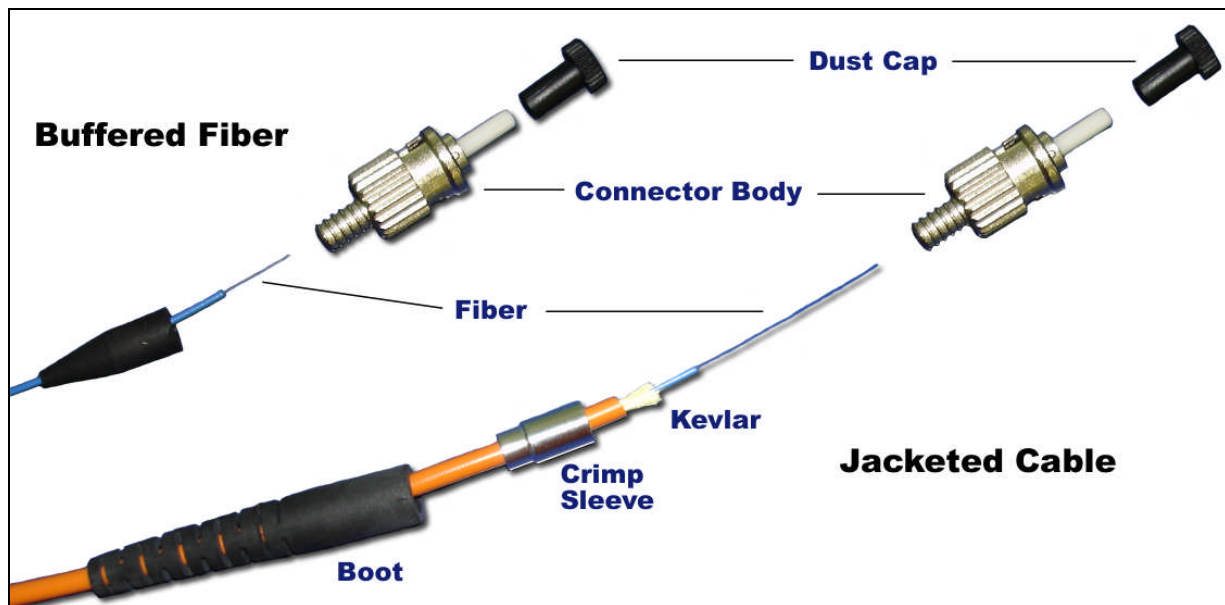

Fig 1
Fig. 1 shows the structure of the LightCon™ ST Connector, consisting of Connector Body, Crimp Sleeve, Boots, and Dust Cap. Connectors for different cables/fibers may vary slightly by boots or crimp sleeves. Follow the steps below to make cable assembly.
**Step 1** Slide the Boot and Crimp Sleeve onto the Cable as shown in Figure 1.
**Note:** (1) The 900um buffer must bottom with the ferrule inside the connector.